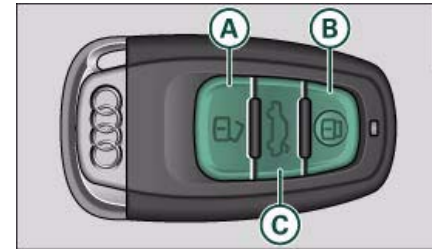

Fig. 36 Remote control key: Control buttons
If you select "Locking boot lid/tailgate" **on**, you can no longer open the luggage compartment using the handle on the boot lid ⇒ page 49, fig. 43. In this case, you can open the boot lid using the ↺ button on the remote control key ⇒ fig. 36 or the unlock switch on the driver's door ⇒ page 48, fig. 42. ■
- Press the button to unlock the vehicle ⇒ fig. 36.